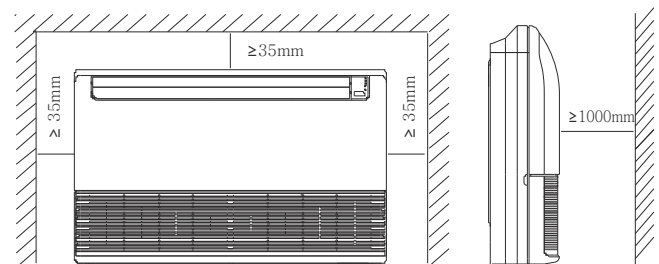
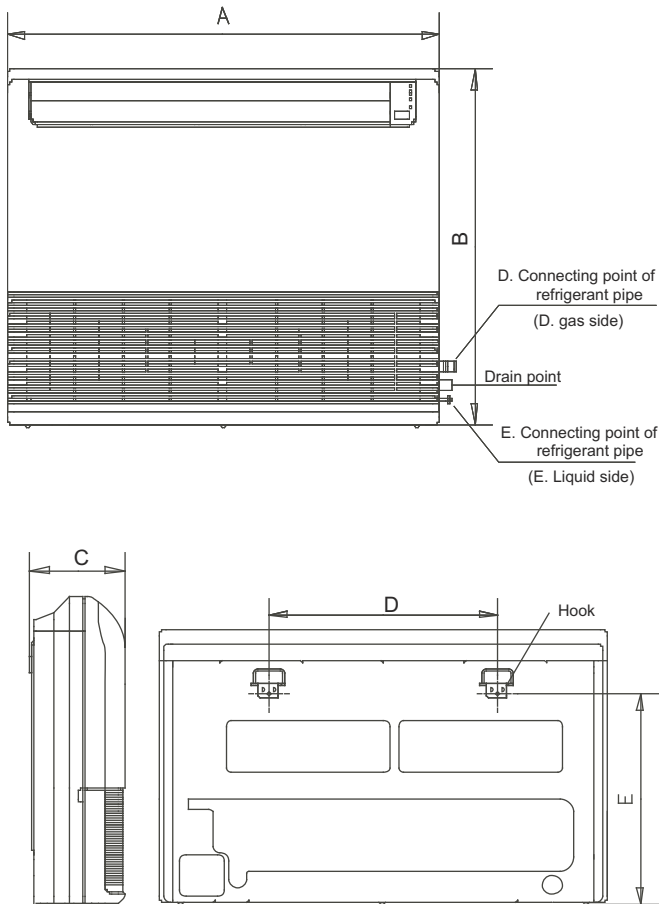
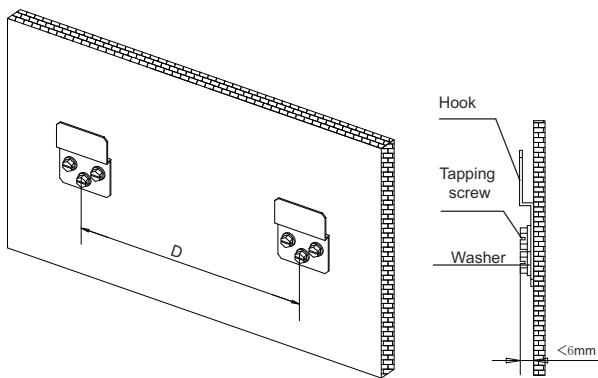
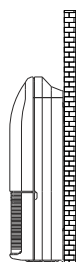

Fig.5-1
Fig. 5-2
Fig.5-3
Fig.5-4
(Refer to Fig.5-1, Fig.5-2, Fig.5-3 and Table 5-1 for specification.)
- 1 Fix the hook with tapping screw onto the wall.(Refer to Fig.5-3)
- Please Refer to Fig.5-3 and Fig.5-4 for the hanging screw bolts distance